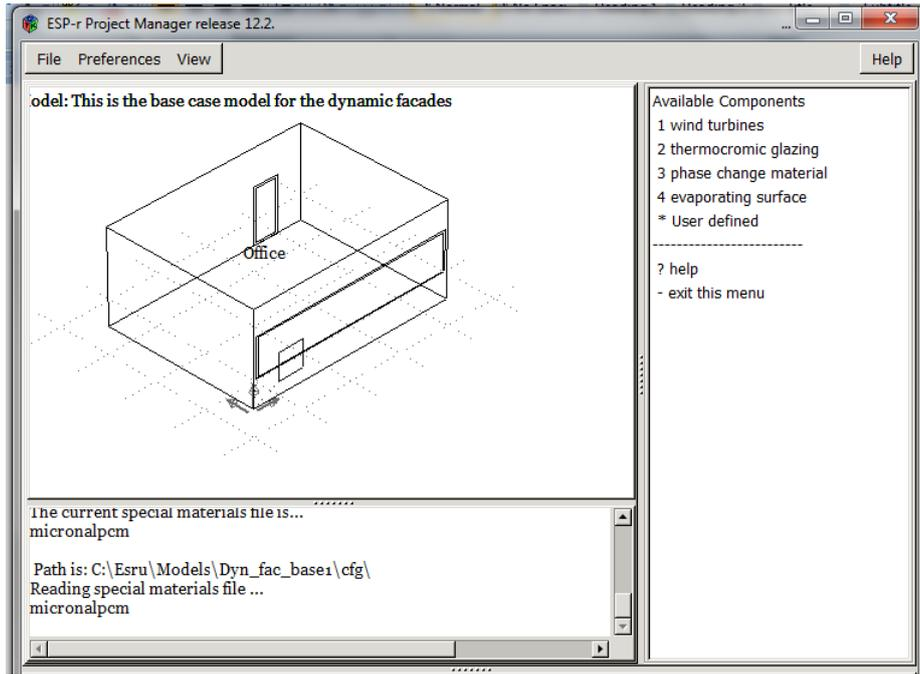

Figure 9
Step 9: ESP-r will then list the available components, click >Phase change materials. (figure 9)